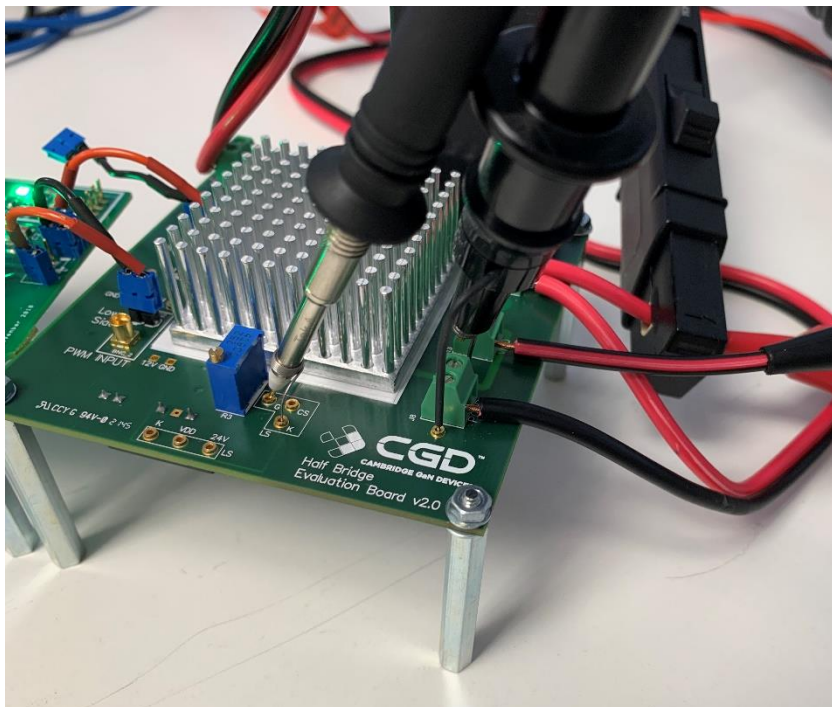

Figure 11 - Photograph of Probe Locations from Double Pulse Test for CGD-ASYEVB00801-01
- Probes (see Figure 11 for photograph)